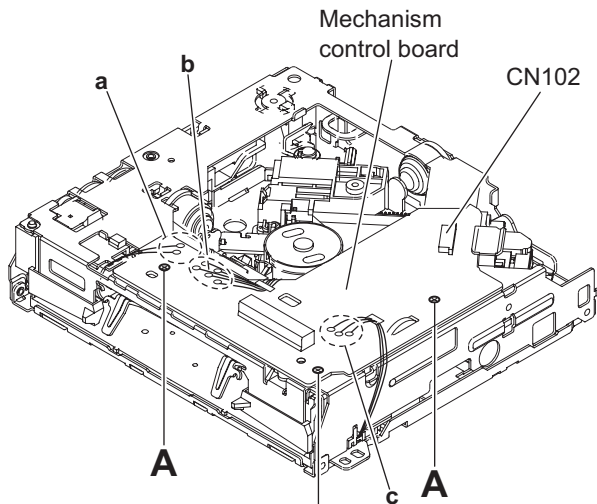

Fig.1
#### 3.2.1 Removing the MECHANISM CONTROL BOARD assembly (See Fig.1 and 2)
- (1) From the bottom side of CD MECHANISM assembly, remove the solders from the soldered sections (**a**, **b** and **c**) on the MECHANISM CONTROL BOARD assembly. (See Fig.1.)
- (2) Remove the three screws **A** attaching the MECHANISM CONTROL BOARD assembly. (See Fig.1.)